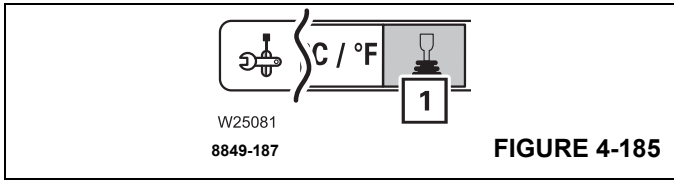

FIGURE 4-185
You can limit the maximum swing speed (1), (Figure 4-185). Refer to *Limiting the Power Unit Speeds*, page 4-92.
Open the Settings (1), (Figure 4-185) Menu.